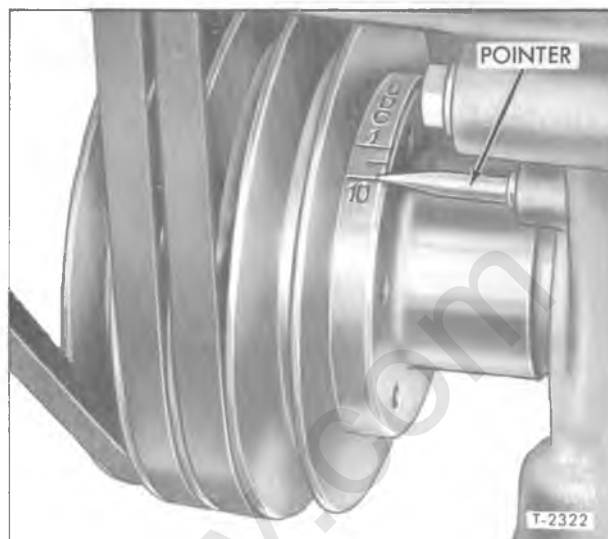

Figure 44—Timing Marks on V6 Engine (Typical)
2. Turn engine clockwise (viewed from front of engine) to UDC #1 mark at crankshaft pulley (fig. 44) on compression stroke. Both the intake and the exhaust valve on No. 1 cylinder will then be closed.